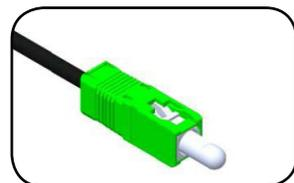

Figure 5
**Step 5:** Re-install the white protective dust cap (**Figure 5**).